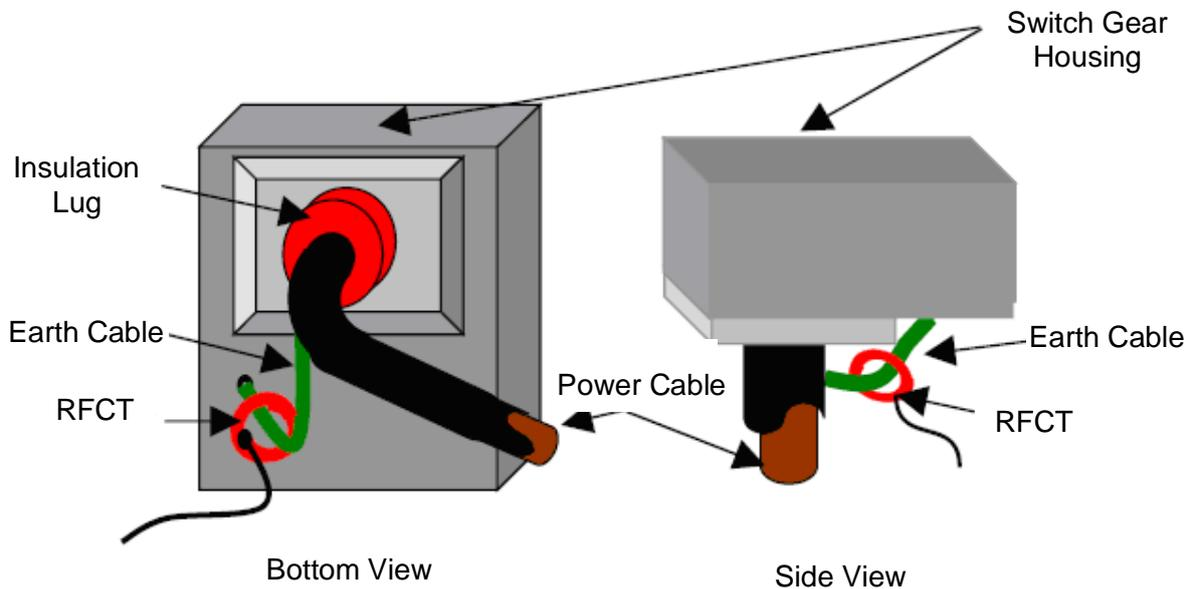

Figure 67 - RFCT Connection
Using the RFCT for online Partial Discharge (PD) tests on medium voltage power cables is relatively straightforward and very safe, as the current transformer is simply clamped around the earth cable using its split core as illustrated in Figure 67. This method can be used on-line without disconnecting cables or switching off supplies to customers.